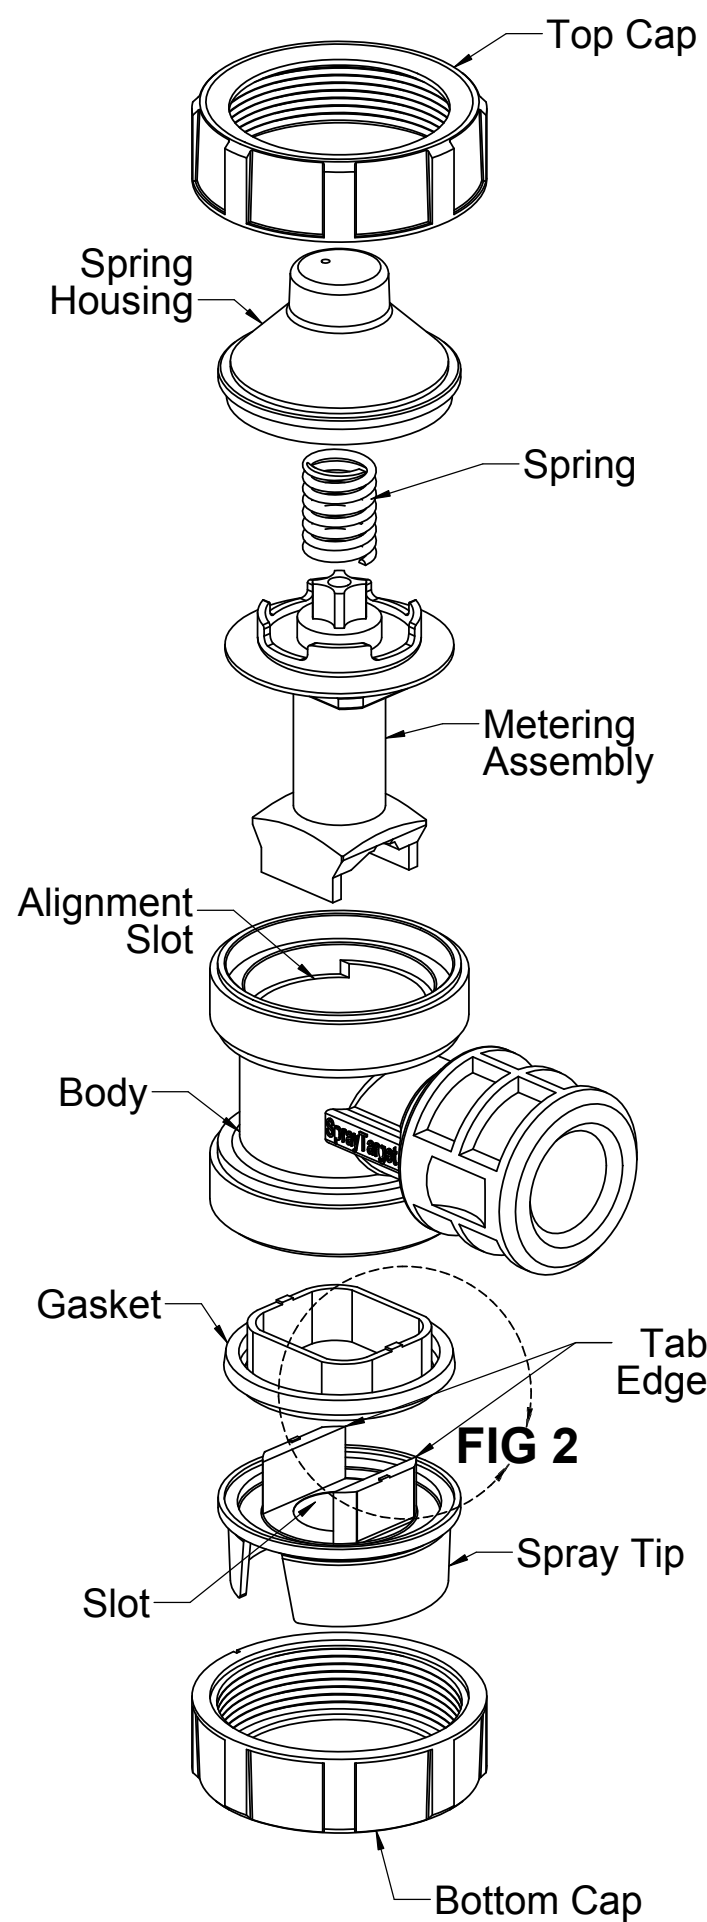
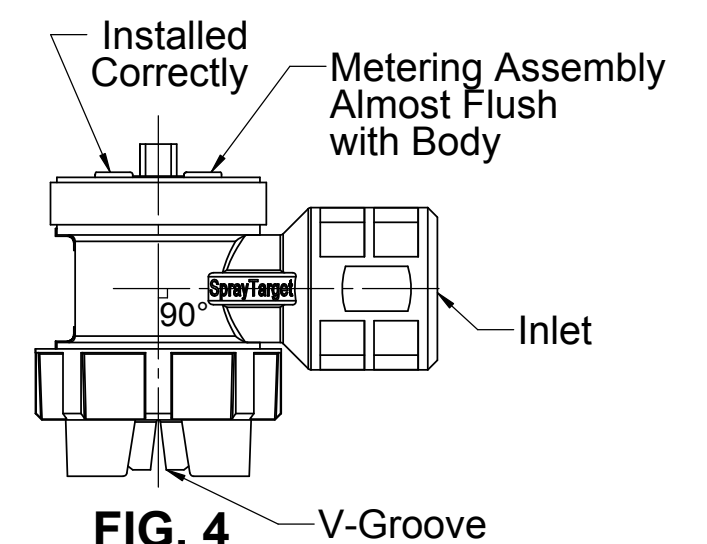
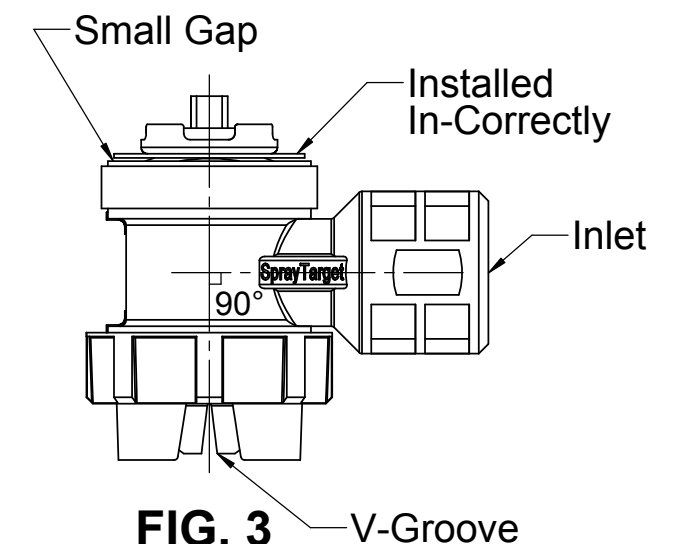

FIG. 1
FIG. 4
FIG. 3
6. Insert either a new Metering Assembly or the same one by placing the Metering Assembly into the Body then turning the Metering Assembly until it drops into the alignment slot. See Fig 1, Fig 3, and Fig 4.
12. Replace the Spray Tip onto the Body, making sure that the slot on the Spray Tip fits onto the Metering Assembly without damaging the tab edges on the Spray Tip as in Fig 1, and the V-Groove forms 90 degrees to the Inlet as in Fig 4.